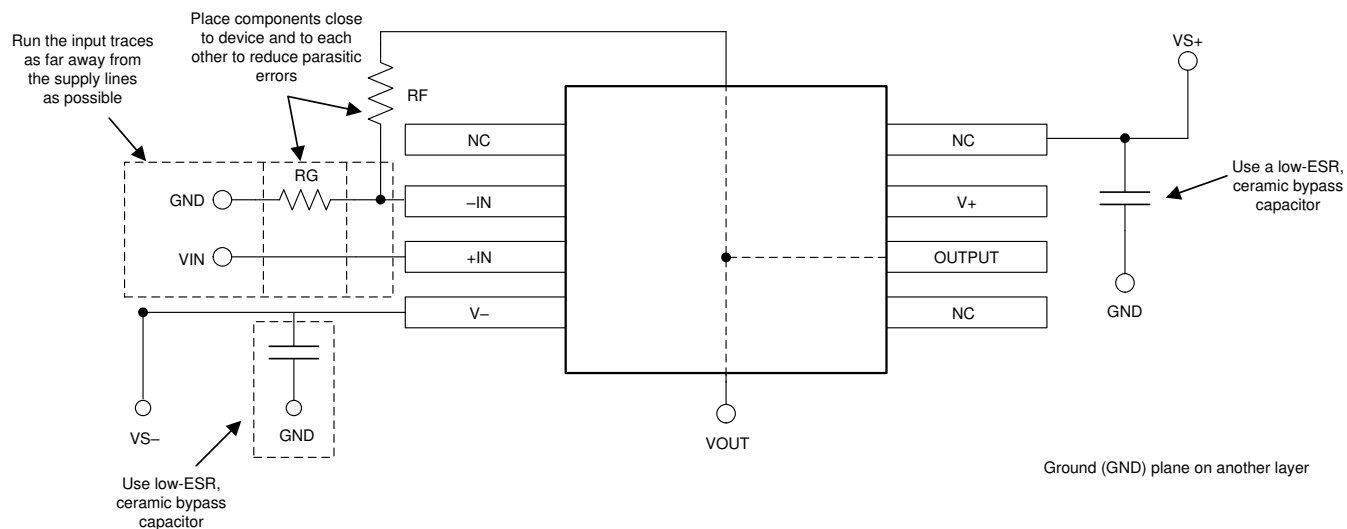

Figure 11-2. Operational Amplifier Board Layout for Noninverting Configuration
- Place the external components as close to the device as possible. As shown in Figure 11-2, keeping RF and RG close to the inverting input minimizes parasitic capacitance.